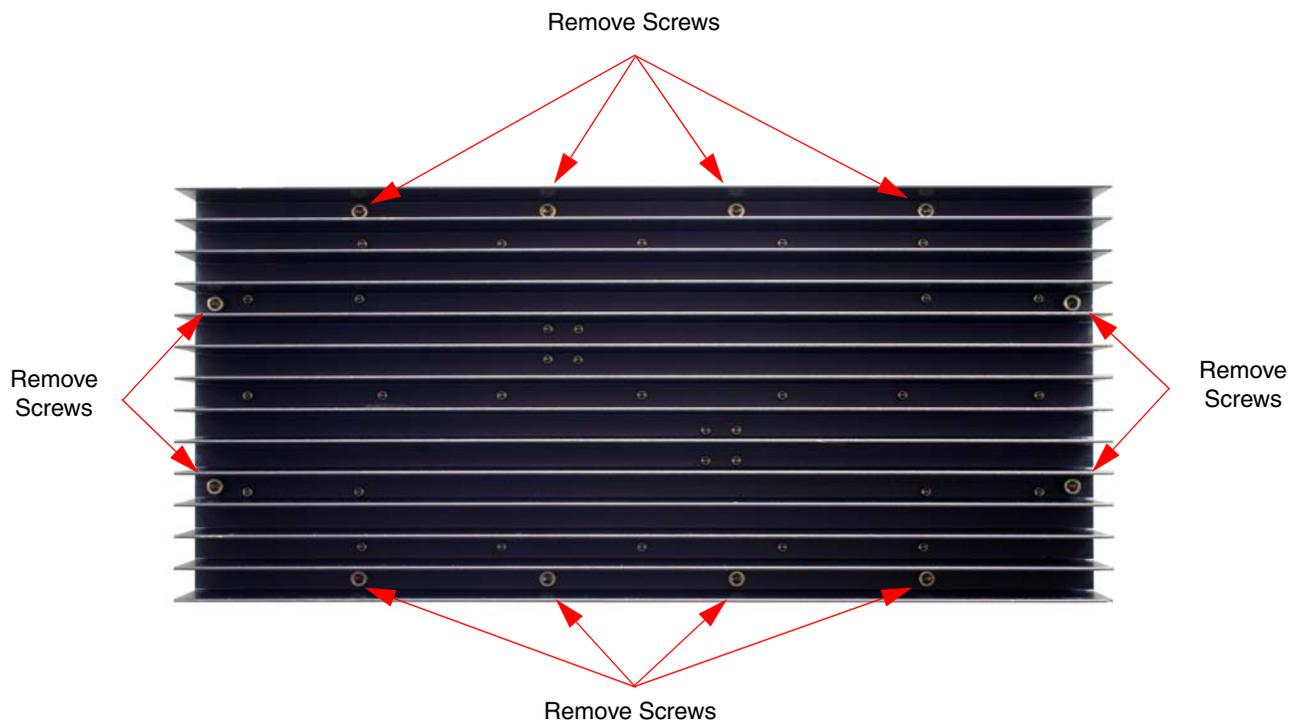

Figure 24: Remove mounting screws to detach channel module from cabinet.
- 6) Remove the 12 hold down screws (5/32" hex head) that hold the channel module assembly to the cabinet. The screw heads are accessible from the heatsink side of the assembly. Refer to **Figure 24**.